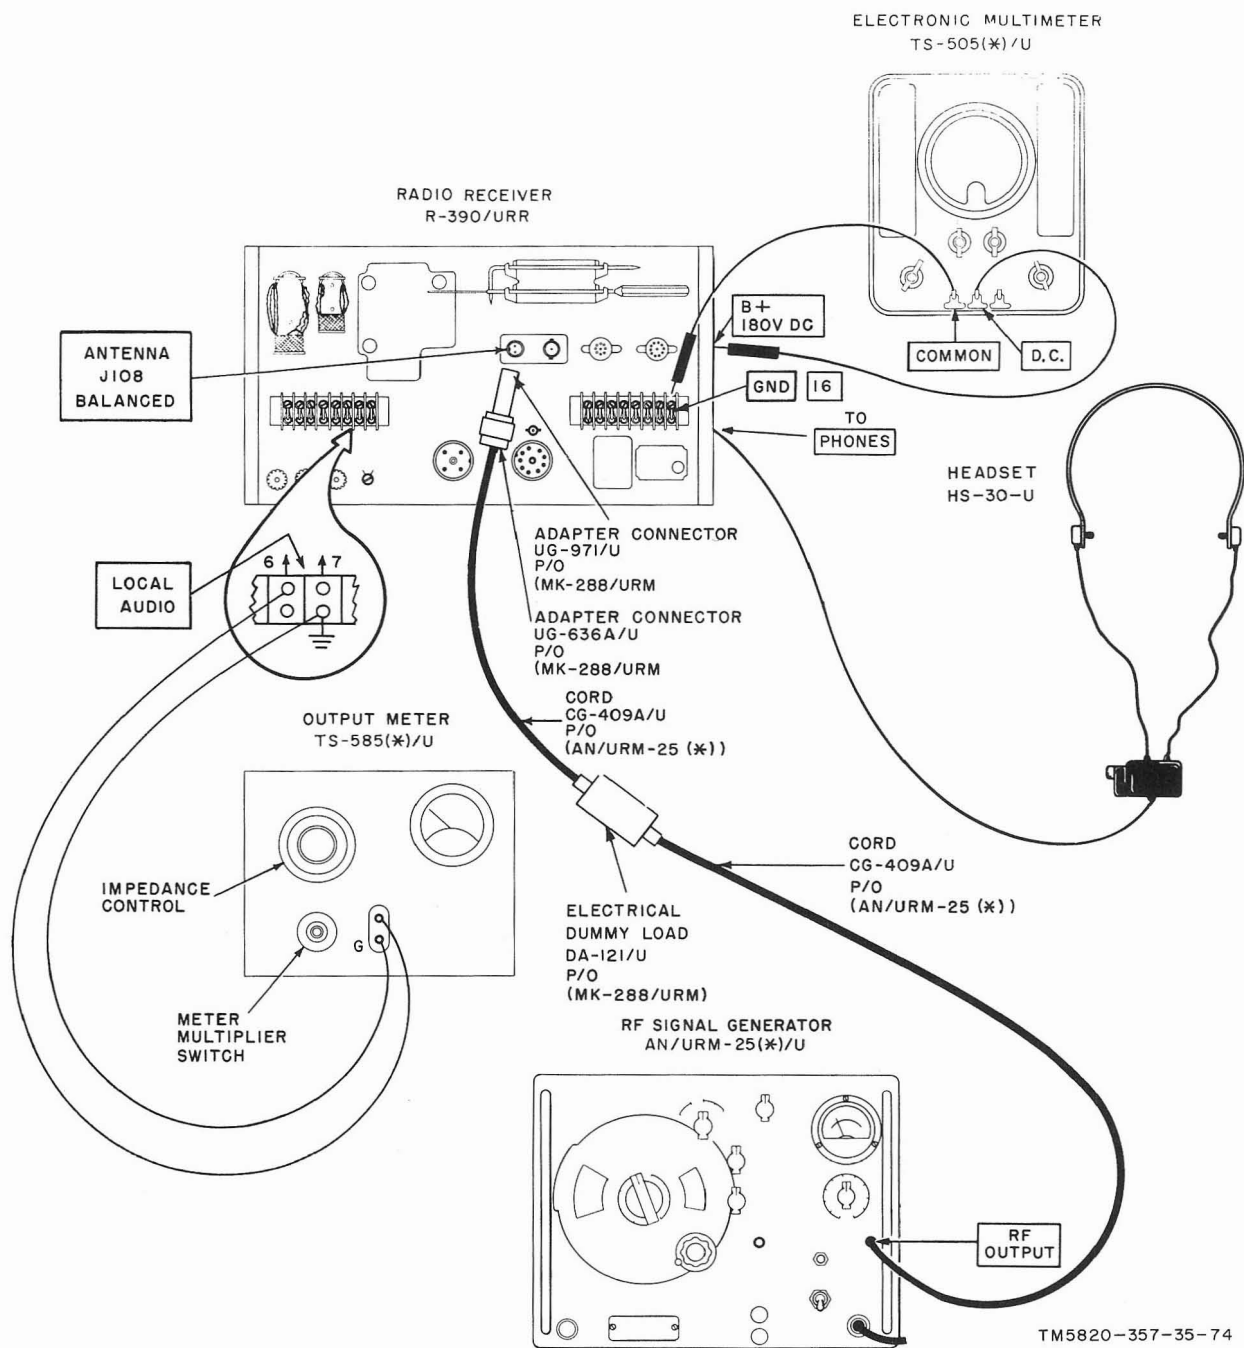

Figure 49. Sensitivity test setup.
(fig. 49)
b. Test Connections and Conditions. Connect the equipment as shown in figure 49. Do not connect the TS-505(\*)/U until the test procedure calls for it.